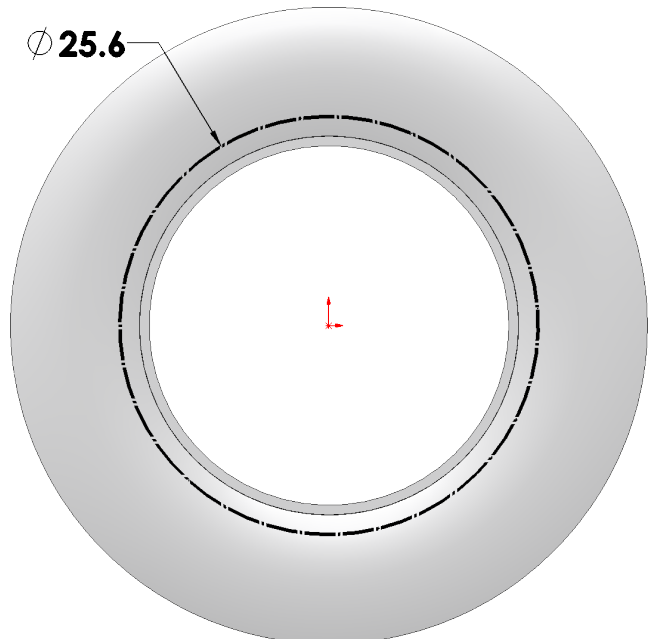

Fig. 11
Step 5. Click **Smart Dimension** (S) on the Sketch toolbar.
Step 6. Dimension **diameter 25.6**, Fig. 11.